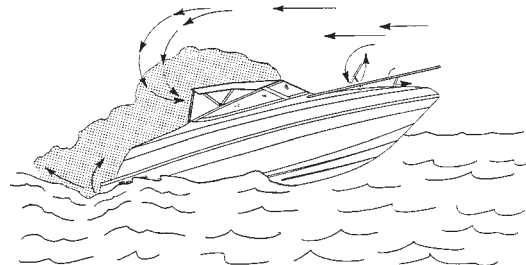

Figure H4: Inefficient trim angles.
1. Inefficient trim angle. See Figure H4.